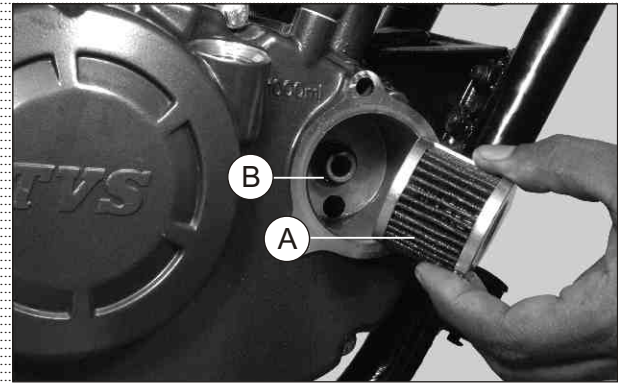

Fig. 2.38
- Remove filter complete engine oil (A) and 'O' ring (B). (Fig. 2.38)